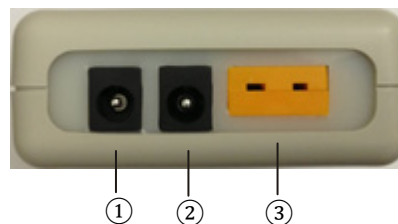

Figure 2. Connectors of SYL-1615 (bottom view).
- ③ Set / confirm
- ④ Shift digit / mute alarm / start auto-tune
- ⑤ Value decrement / select previous parameter
⑥ Value increment / select next parameter
⑦ AL - alarm Indicator
Figure 2 shows the terminals of the controller. Connect the AC to 12 VDC power adaptor to the POWER connector (①) and wall outlet. Connect the fan connector to the OUTPUT connector (②). The polarity for this socket is center pin positive (+), outer collar negative (-). Connect the type K thermocouple to the INPUT socket (③). Please note that thermocouple connector also has polarity. The wide blade should go to the wide slot.